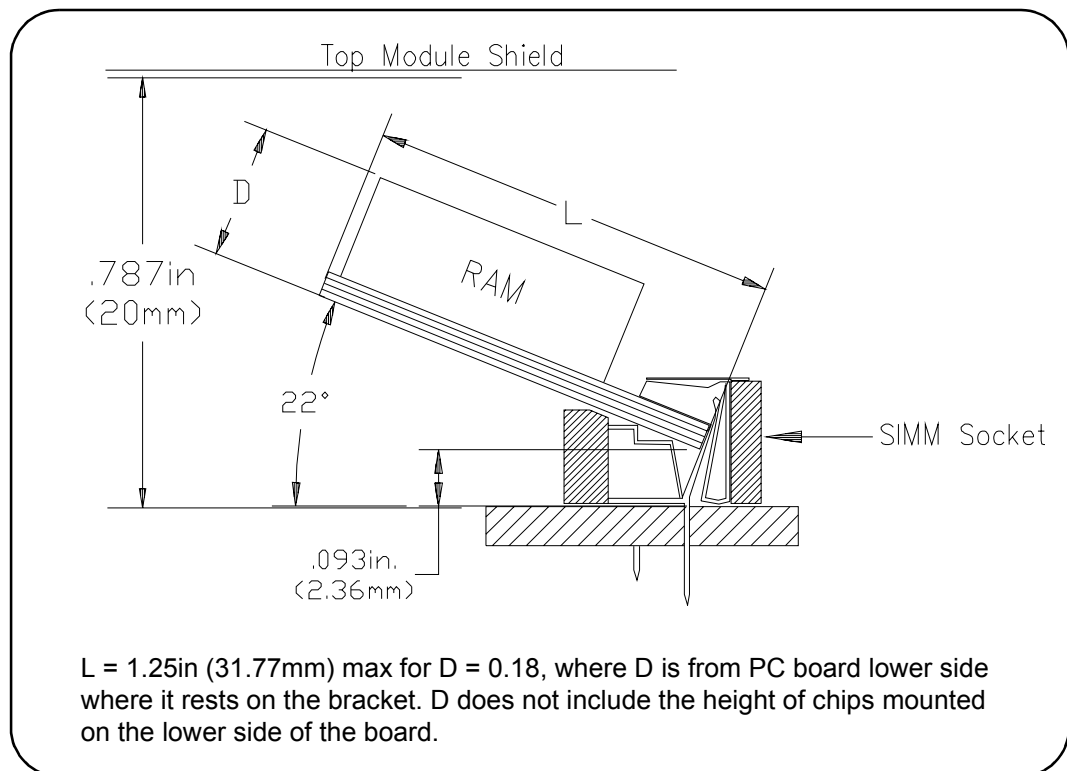

Figure 1-3. Adding RAM to the Module
The E1563/E1564 has about 17.6 mm of space from the bottom of the SIMM RAM inserted in the socket to the top module shield (see Figure 1-3). You must verify that the SIMM RAM you purchase for replacement on the module has a depth (D) that will clear the top module shield. You can use the 4 Mbyte SIMM RAM you remove as a guide, as well as the dimensions in Figure 1-3, when purchasing your upgrade RAM.